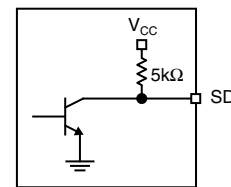

Figure 5. SD Output Structure
The SY88983V generates a chatter-free signal detect (SD) open-collector TTL output with internal  $5\text{k}\Omega$  pull-up resistor as shown in Figure 5. SD is used to determine that the input amplitude large enough to be considered a valid input. SD asserts high if the input amplitude rises above the threshold set by  $\text{SD}_{\text{LVL}}$  and deasserts low otherwise. SD can be fed back to the enable (EN) input to maintain output stability under a loss of signal condition. EN deasserts low the true output signal without removing the input signals. Typically 4.6dB SD hysteresis is provided to prevent chattering.